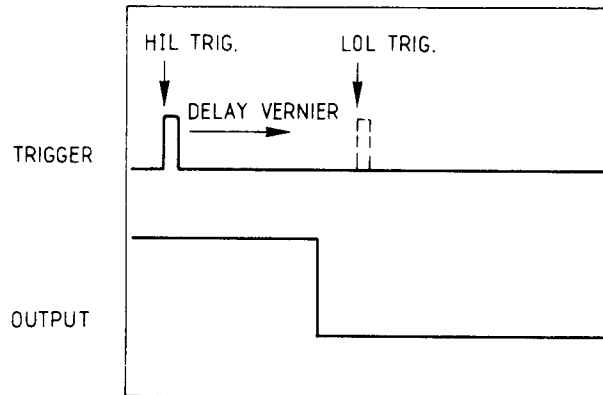

Figure 4–18. HIL, LOL Measurements
6. For measuring LOL set pulse delay vernier cw till the trigger is in the low level area (see figure 4–18). Set 8160A LOL to -0.1 V and HIL to 0 V. Set EXT INPUT IMP. back to 50Ω . Repeat table 5–5 for same values but LOL.
6. Measure pulse top and bottom levels by changing pulse generator delay vernier (see fig. 4–18). Levels should be within limits of table 4–6.